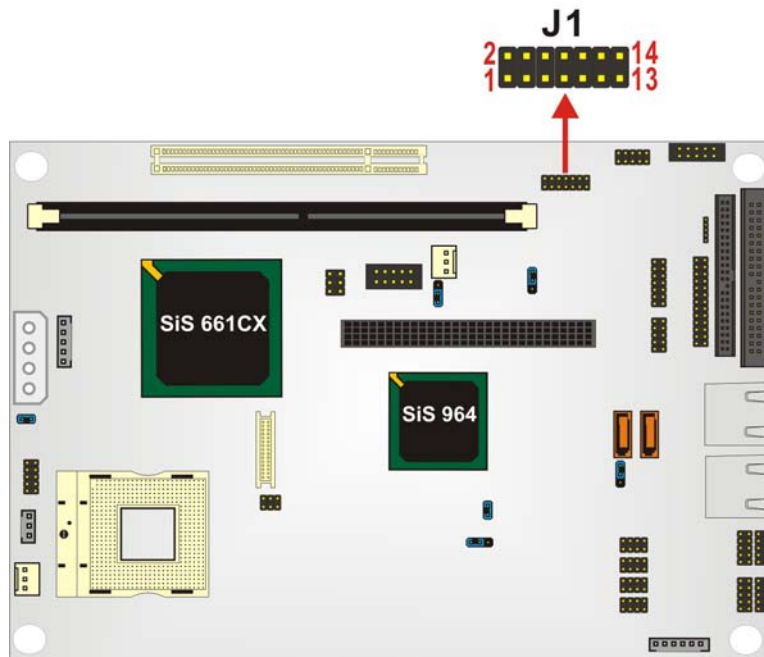

Figure 3-19: System Front Panel Connector Pinout Locations
- CN Location:** See Figure 3-19